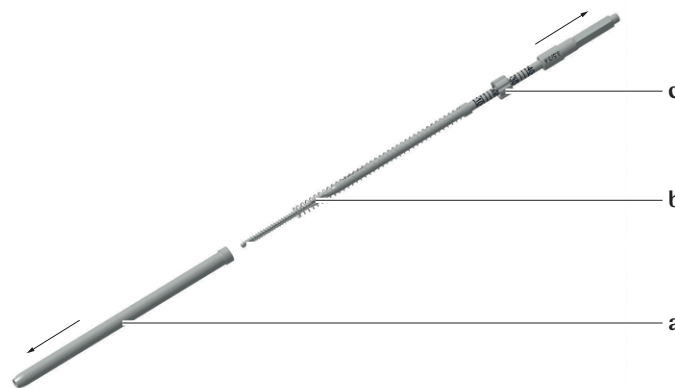

Fig. 59
- ▶ Loosen and unscrew the nut **c** and remove it from the sleeve **a** in the direction of the arrow, see Fig. 59.